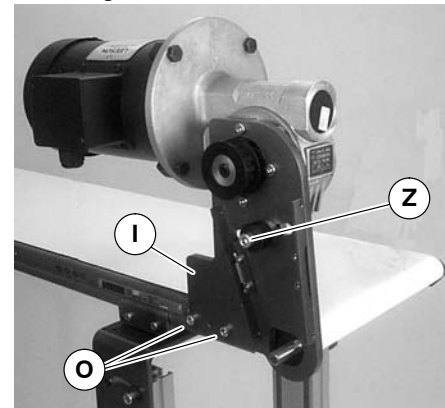
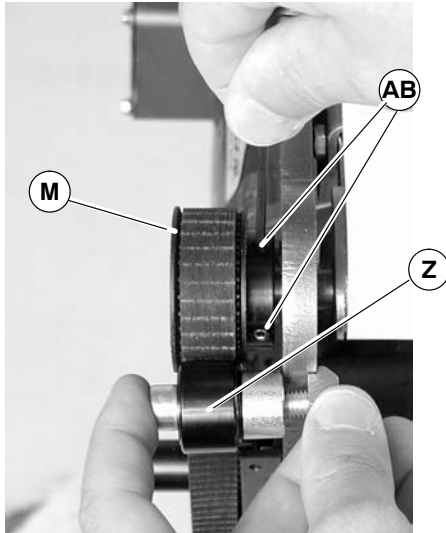

Figure 11
Figure 16
4. Attach mount assembly (I of Figure 11) with screws (O). Tighten to 80 in-lb (9 Nm). For 4100 conveyors, proceed to step 7.
- Remove cam bearing and spacer (Z of Figure 11). Place the cam bearing and spacer (Z of Figure 16) next to the driven pulley (M). Ensure the flanges of the driven pulley are aligned with the cam bearing. Tighten driven pulley set screws (AB). This will allow for proper belt alignment while conveyor is in use. Install cam bearing and spacer (Z).